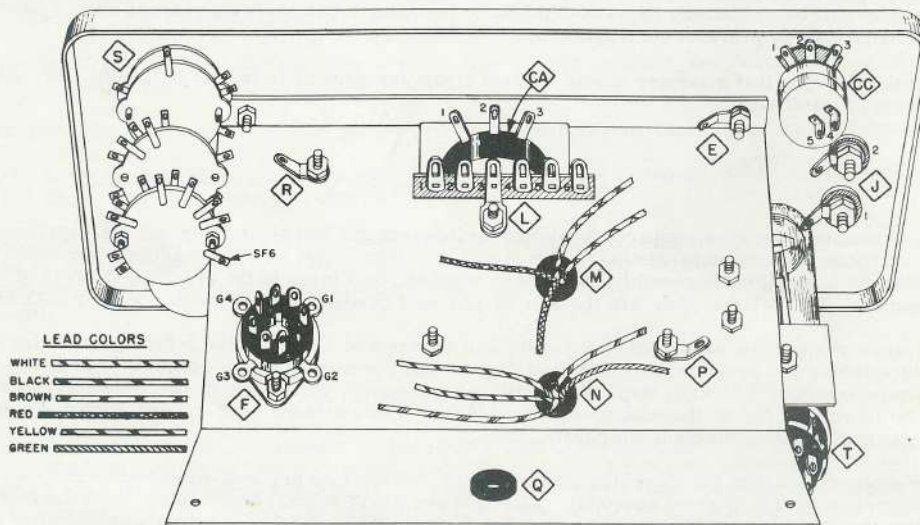
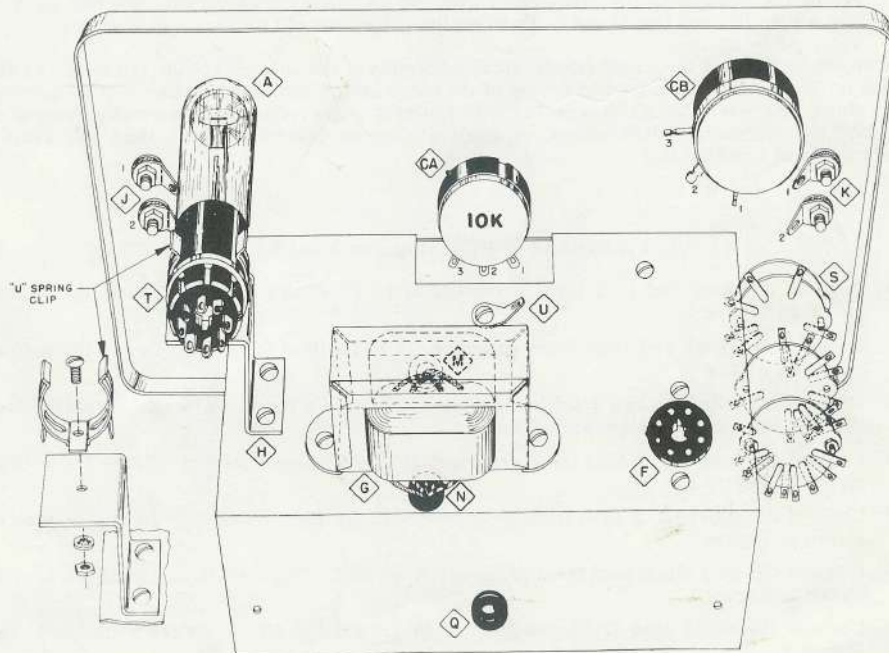
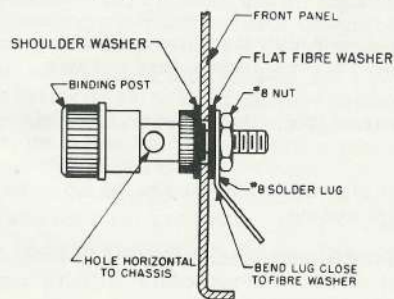

Figure 1
Figure 2
Figure 3 "SEE BLOW-UP NO.1"
- () 1. Insert the three 3/8" rubber grommets in holes M, N and Q (Fig. 1).
- () 2. Mount the transformer T1 at G (Fig. 2). Push the two black, the one yellow, the one white and the one green lead through the grommet at N. Then push the two red and the two brown leads through the grommet at M. Mount the transformer to the chassis with two #6 binding head screws, one lockwasher and two #6 nuts. On one screw use a #6 solder lug (P) instead of a lockwasher as shown in Figure 1.
- () 3. Mount the Z bracket at H with two #6 binding head screws, lockwashers and nuts (Fig. 2).
- () 4. Slip a #6 solder lug on a #6 binding head screw. Pass the screw through hole U from the top of the chassis and mount the 6-lug terminal strip "L" under the chassis on the same screw using a #6 lockwasher and nut. Orient the solder lug on the top of the chassis and terminal strip on the bottom of the chassis as shown in Figures 1 and 2.
- () 5. Place the saddle mount octal socket in hole F with the key-way as shown in Figure 1. Mount the socket using two #6 binding head screws, lockwashers and nuts.
- () 6. Mount a #6 solder lug at R under the chassis (Fig. 1) with a #6 binding head screw, and nut.
- () 7. Position the "U" spring clip as shown in Figure 2 and mount it to the top of the Z bracket with a #6 binding head screw, lockwasher and nut.
- () 8. Mount the red binding post (P20-189-1) to the front panel at J1 (Fig. 2) using a shoulder-washer, flat washer, #8 solder lug and #8 nut. The procedure for mounting a binding post is shown in Figure 3.
- () 9. Mount the three black binding posts (P20-189) at J2, K1, and K2 as shown in Figure 3.
- () 10. Bend over the positioning tab on the 1K control (P17-212) R14 (with switch) and mount it at CC (Fig. 1) using the control lockwasher, control bakelite washer and control nut. The procedure for mounting the control is shown in Figure 4. Position the control as shown in Figure 1.
- () 11. Bend over positioning tab on the 10K wirewound control (P17-213) R11 and mount it at CA (Fig. 2) using the control lockwasher, control bakelite washer and control nut. Position the control as shown in Figure 2. Make sure you select the 10K control (R11) for this step not the 100K ohm control (R15).
- () 12. Break off the bakelite positioning tab and mount the 100K wirewound control (P17-214) R15 at CB (Fig. 2). Position the control as shown in Figure 2.
- () 13. Mount the chassis to the front panel with two #6 binding head screws, one lockwasher, one solder lug and two #6 nuts. Position the solder lug (E) as shown in Figure 1.